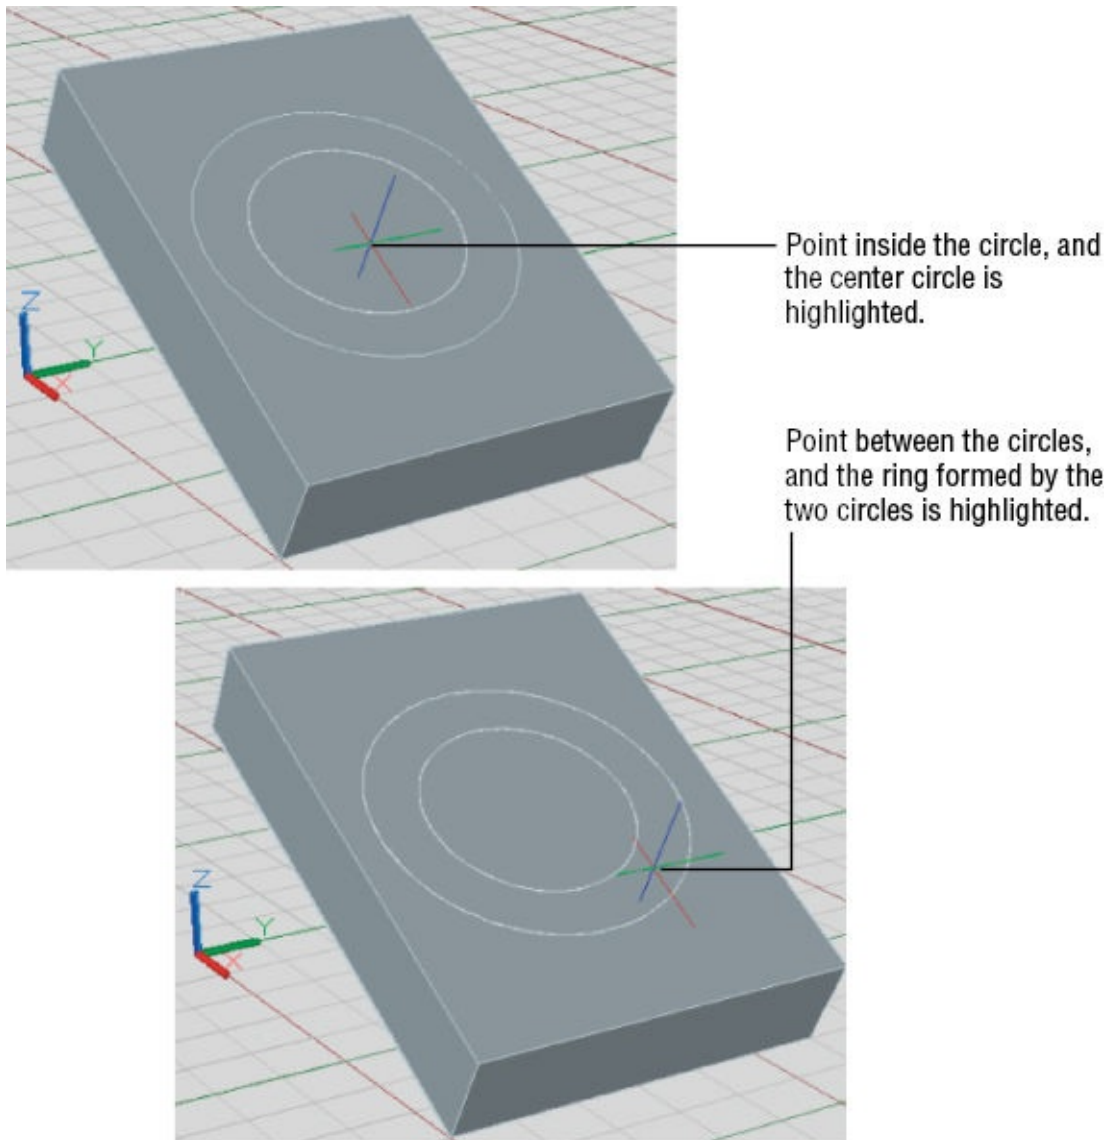
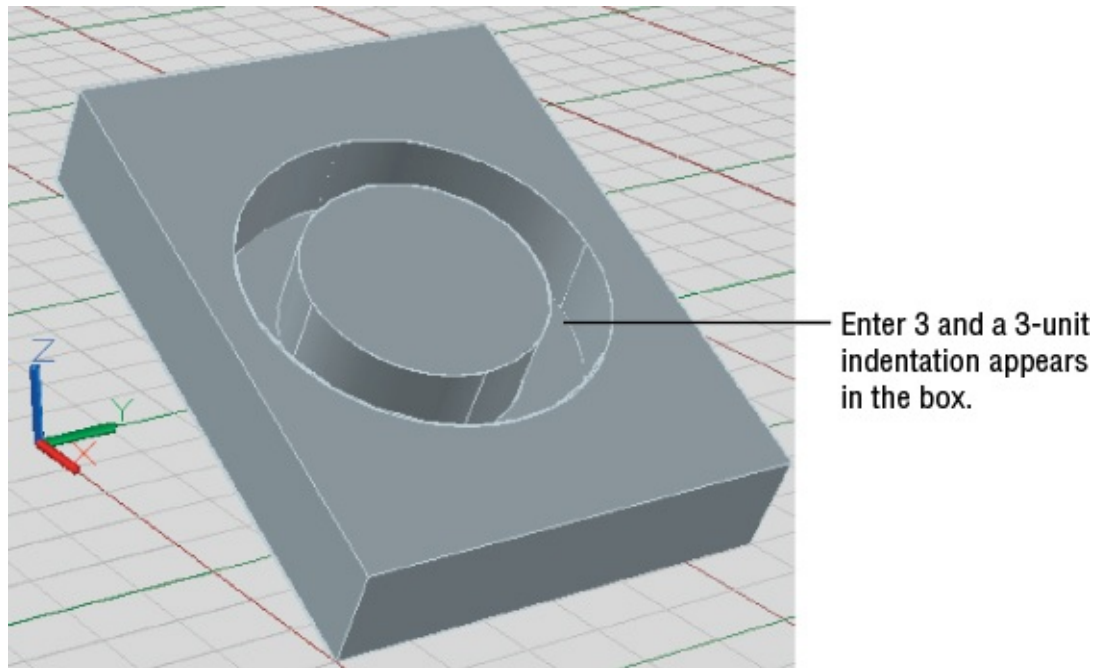

FIGURE 20.13 Move the cursor over different areas of the box and notice how the areas are highlighted.
FIGURE 20.14 Creating an indentation in the box using Presspull
lower-right panel of Figure 20.13.)
4. Adjust the cursor location so that the cursor is positioned below the center of the circle, as shown in the top-left panel of Figure 20.13. Enter **3↵** to create a 3-unit indentation, as shown in Figure 20.14.